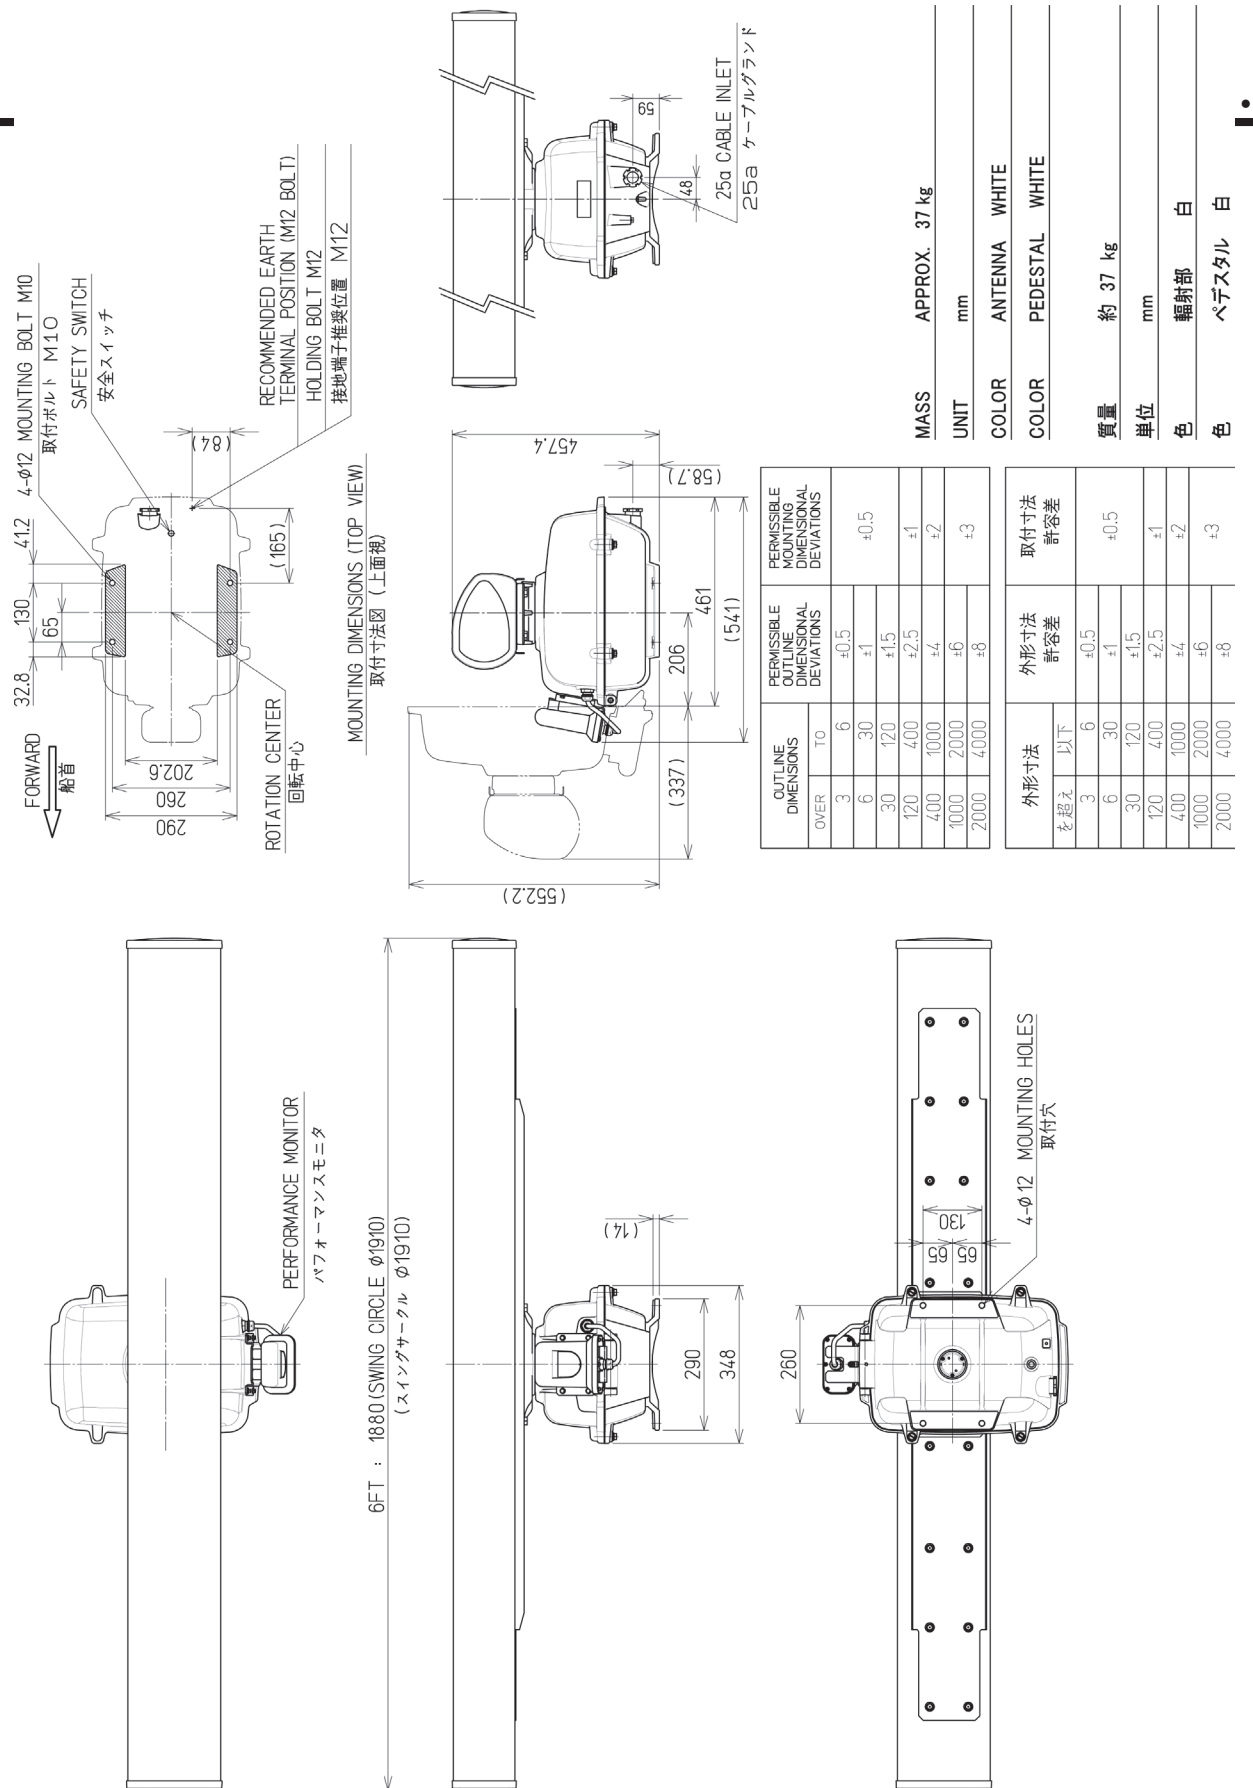

Fig. 1.5 Exterior Drawing of Scanner Unit, Type NKE-2103-6/6HS
- Fig. 1.5 Exterior Drawing of Scanner Unit, Type NKE-2103-6/6HS